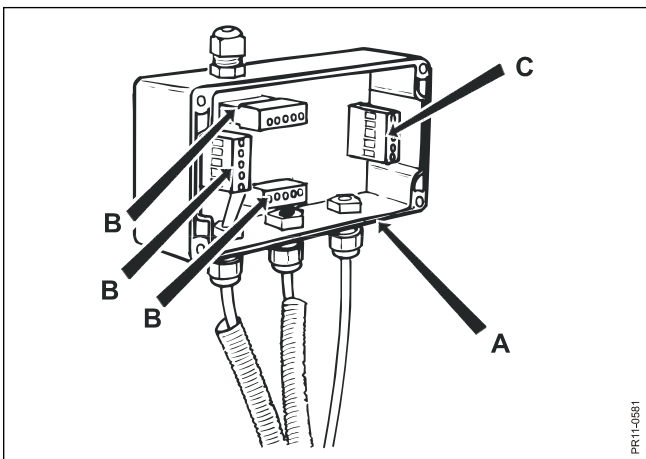

Fig. 9.10
Fig. 9.10 When welding **never ever** let the current run through a weighing cell. Opening the connection box (A) and dismounting the outlet for the weighing cells (B) and the outlet for the instrument (C) prevents this.